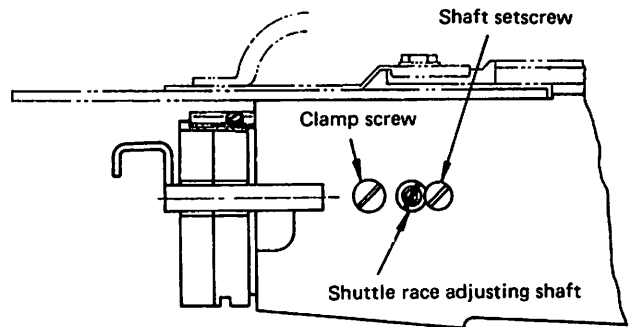

Fig. 48
- 1) To adjust the shuttle race position in its axial direction, loosen the clamp screw and then turn the shuttle race adjusting shaft which is located on the right side face of the machine bed as shown in Fig. 48.